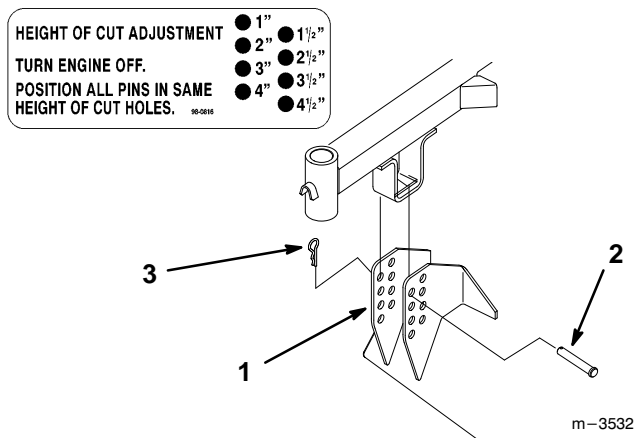

Figure 15
1. To adjust, remove hairpin cotter and clevis pin from mower hanger bracket (Fig. 15).
2. Select hole in mower hanger bracket corresponding to the height-of-cut desired. Lift on side and front to align holes and insert clevis pin (Fig. 15).
3. Secure clevis pin with hairpin cotter (Fig. 15).